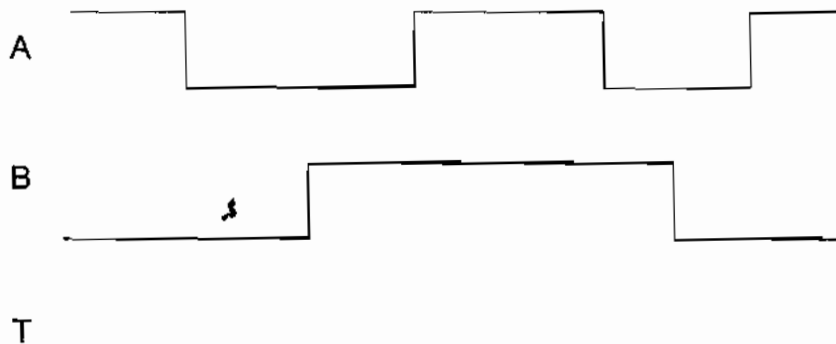

Fig 3b Asynchronous state machine timing diagram (to be completed)
- d Use the state transition diagram derived in part c to complete the timing diagram of fig 3b [Fig 3b is also included on a separate page which may be submitted with the exam script] **2 marks**